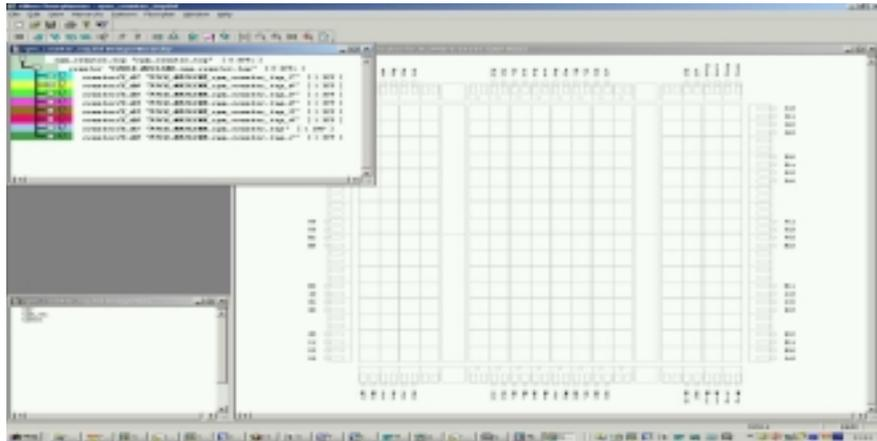

Figure 1: Expanded Counter Module in Hierarchy Window
- Expand counter in the hierarchy window. (See **Figure 1**)